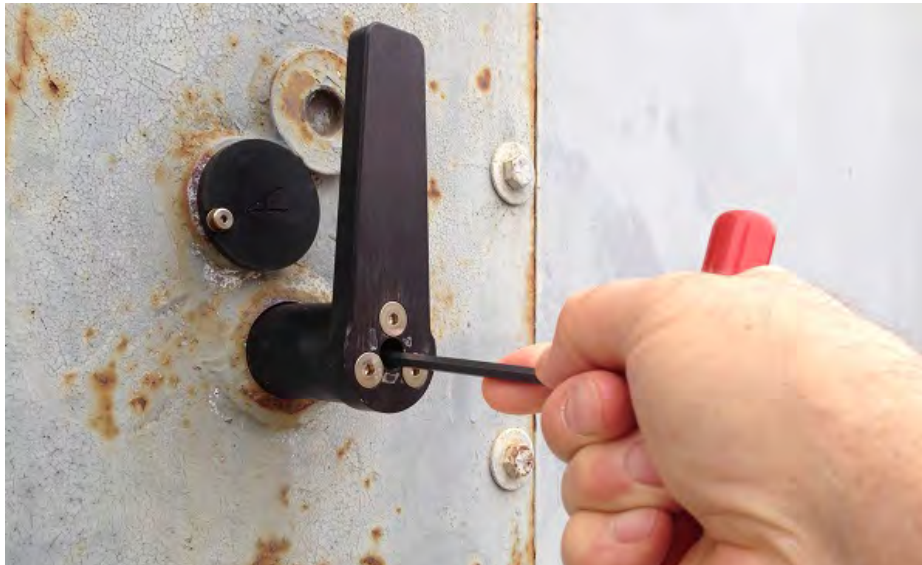

Figure 5-4. Removal of ILD handle
Step 5: Place the ILD into the “**locked**” position. Remove ILD handle by unscrewing the 1/4"-20UNC x 1.25" socket head cap screw using a 3/16" hex key wrench (see Figure 5-4).